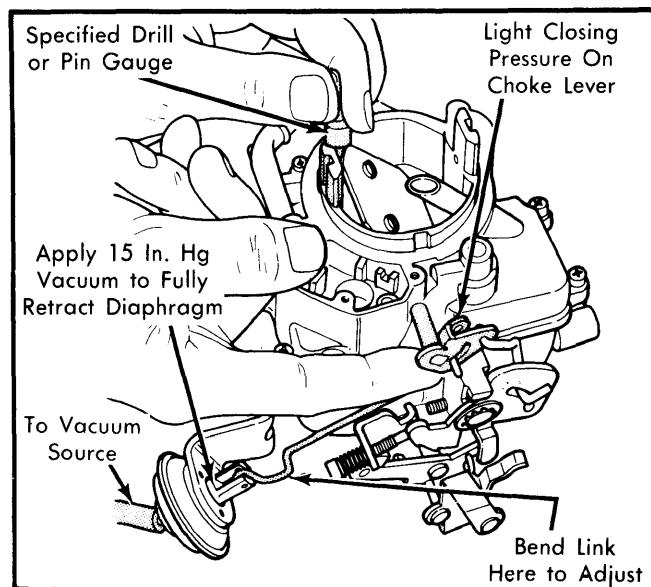

Fig. 5 Adjusting Choke Vacuum Kick
1) Open throttle and close choke. Now close throttle to trap fast idle cam in closed choke position. See Fig. 5.